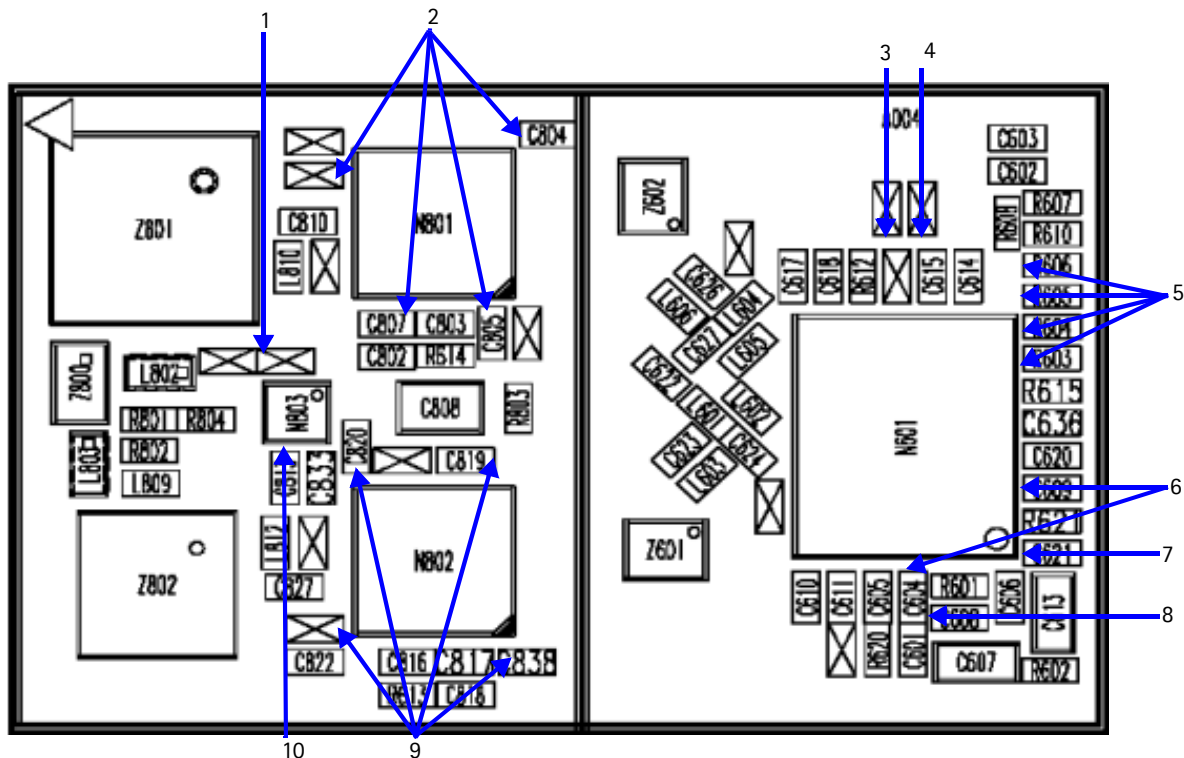
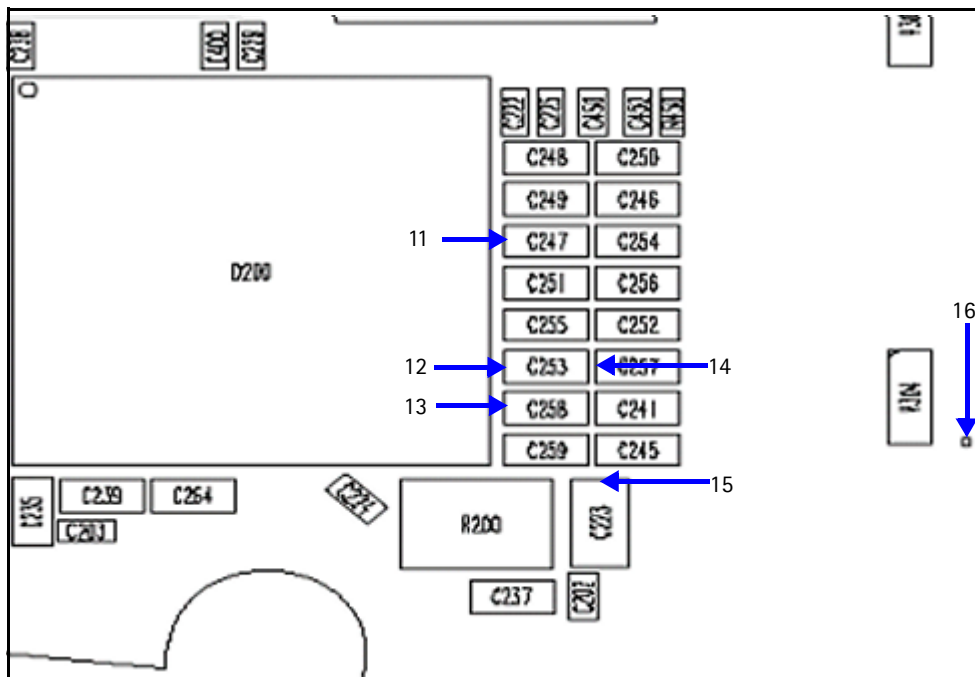

Figure 13: Top side TX DC test points
Figure 14: Bottom side TX DC probe points
1. Use a voltmeter to verify that the VR2, VR6, and VR1B are on the transmit system. (See Figure 13 on page 19 and Figure 14 on page 20).
2. If all DC voltages are present, check the AGC control voltages. (See Figure 13 on page 19).
See Figure 13 on page 19 for test point location and common power and voltage variations.